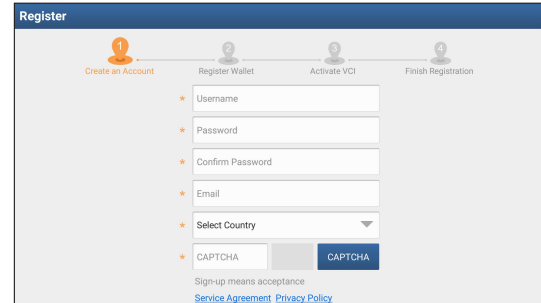

Fig. 4-3
A. **If you are a new user**, tap “New Registration” to enter the sign-up screen. See Fig. 4-3.
1. **Create an App Account:** In Fig. 4-3, input the information to create a new account (all fields must be completed). When finished tap